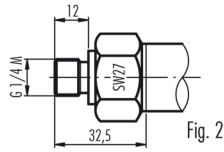
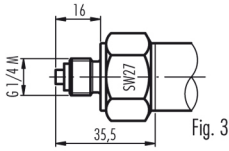
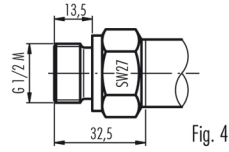
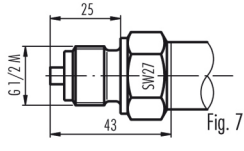

Fig. 2
Fig. 3
Fig. 4
Fig. 7
(4) Process connection available ≤ 600 bar
(5) Cable socket connector not included
(6) Please specify the required cable length and medium
(7) For operating temperature > 50°C, FEP cable must be used
(8) Only with pressure connection Fig. 2, Fig. 3, Fig. 4, Fig. 7 and Fig. 8
(16) Connector side not to be used in Zone 0 or Ex ia IIC, explosion risk